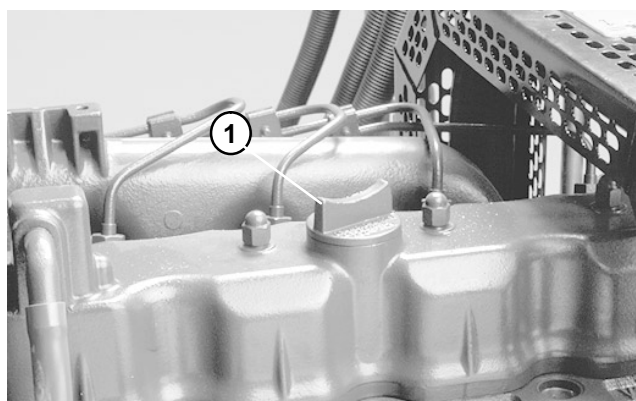

Figure 3
4. If oil is below FULL mark, remove fill cap and add SAE 10W–30 oil until level reaches the FULL mark. **Do not overfill.** Crankcase capacity is 8 qt. (7.6 L) with filter (Fig. 3).